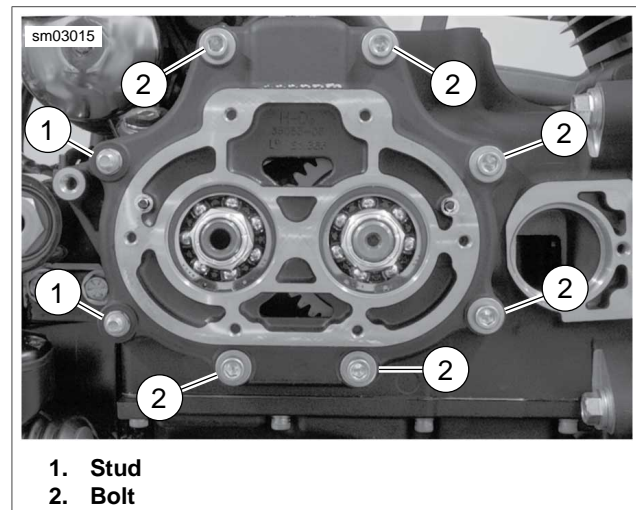

Figure 7-11. Side Door Hardware
11. See Figure 7-11. Remove the transmission side door mounting hardware. Remove exhaust bracket, if equipped. Pry the side door loose and remove side door, mainshaft, countershaft and shifter cam from transmission case as an assembly. Discard gasket.